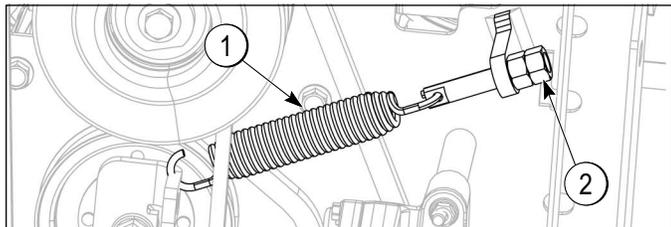

Figure 6-4
Pump belt spring tensioner (1) is shown in Figure 6-4.
2. Using a 3/4 inch wrench, loosen the top jam nut (2). Tighten the adjustment nut to increase the belt tension. Once desired drive belt tension is achieved, tighten the jam nut securely.